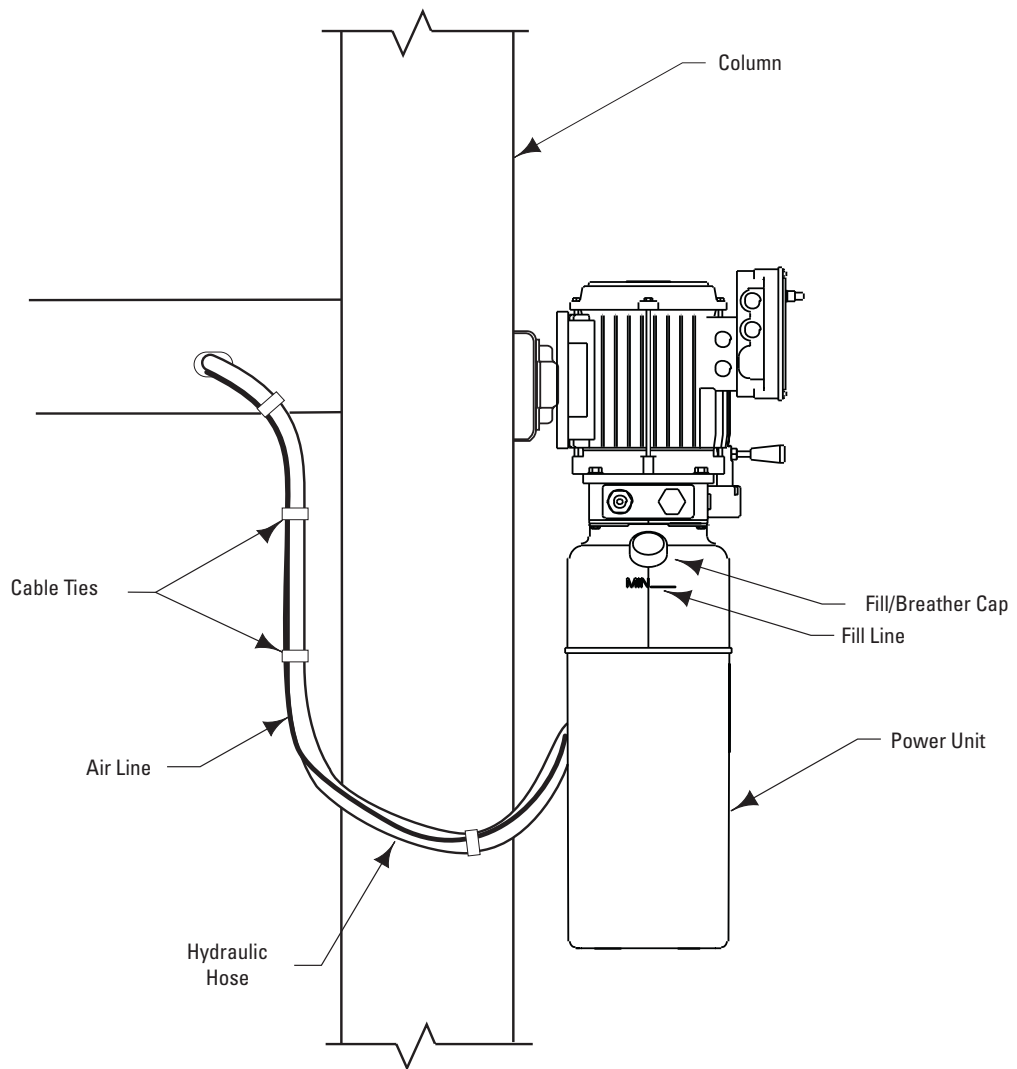

Fig. 19
- B. Mount power unit, with motor up, to column bracket and install lock washers and nuts. Run hydraulic hose from runway through grommet in side of runway to power unit output port, Fig. 19. DO NOT use Teflon tape on hydraulic hose connections. Install and hand tighten elbow to pump until O-ring is seated and elbow should be oriented downward. Tighten locknut to 35-40 ft. lbs. Install enclosed Capacity label on power unit.
System capacity is thirteen (13) quarts. Use Dexron III ATF. Remove fill/breather, Fig. 19. Pour in hydraulic fluid until it reaches the **Fill Line**. Replace fill/breather. Start motor and raise lift to full rise. Lower onto latches.
Note: If fill/breather, Fig. 19, is lost or broken, order replacement.
To pressure test, run lift to full rise and run motor for approximately 5 seconds. Stop and check all fittings and hose connections. Tighten or reseal if required. Lower lift. If fill/breather, Fig. 19, is lost or broken, order replacement.